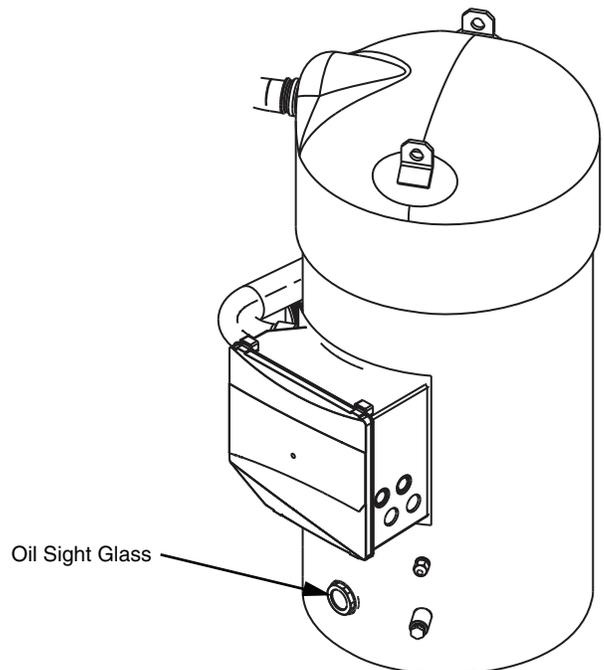

Fig. 39 — Sight Glass Location
5. Oil should be visible in the compressor sight glass(es). See Fig. 39. For unit sizes 010-090, an acceptable oil level is from 1/8 to 3/8 of sight glass. For unit sizes 100-150, an acceptable oil level is from 3/4 to 7/8 of sight glass. No oil should be removed unless the crankcase heater, if equipped, has been energized for at least 24 hours. Adjust the oil level as required. See Oil Charge section on page 61 for Carrier approved oils.